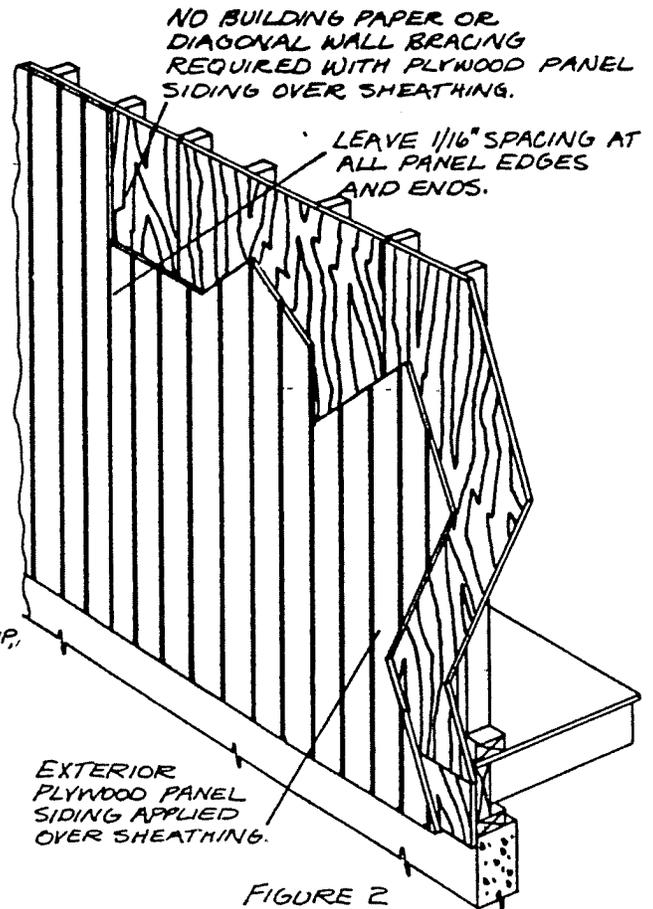

FIGURE 2
9. Apply plywood siding to sheathed walls (Figure 2). Texture 1-11, 303-16 in. o.c. sidings, and other Exterior panels under 7/16 in. thick may be applied with face grain parallel to studs 16 in. o.c. Any Exterior panel may be used over studs 24 in. o.c. if face grain is across studs (subject to your preference on finishing and appearance). Use hot-dipped galvanized, aluminum or other nonstaining nails to prevent staining of the siding from nail weathering and rusting. Use 6d box, siding, or casing nails for plywood siding 1/2 in. or less thick; use 8d nails for thicker panels. Drive nails every 6 in. along panel ends and edges, every 12 in. at intermediate supports. Nails through battens must penetrate studs at least 1 in. or be driven through the plywood sheathing if the joint does not occur over a stud.